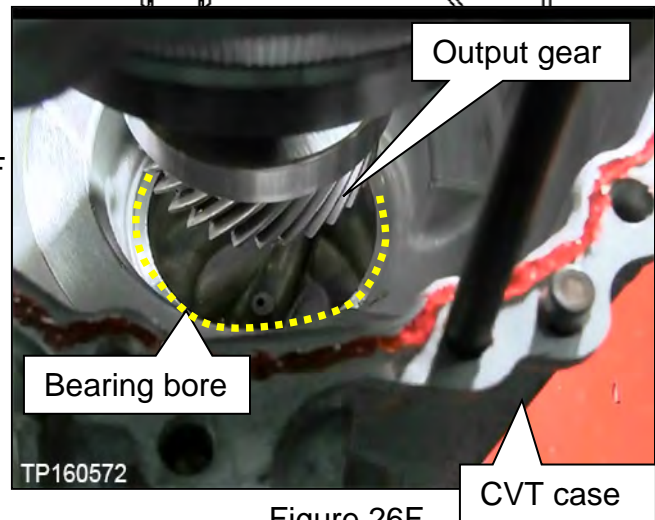

Figure 26F
- While visually looking down into the bore (Figure 26F) to confirm that the output gear is clearing the CVT case bearing bore,